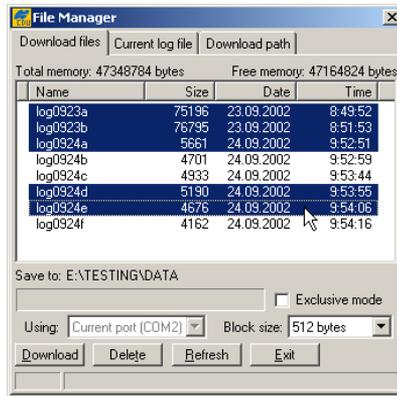

Figure 4-3. Download Files
5. Click the **Download files** tab, and select the file(s) to download (Figure 4-3 on page 4-3).